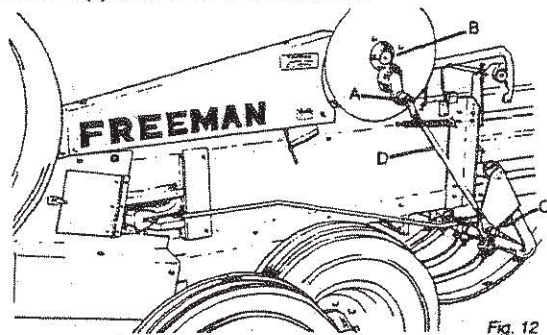
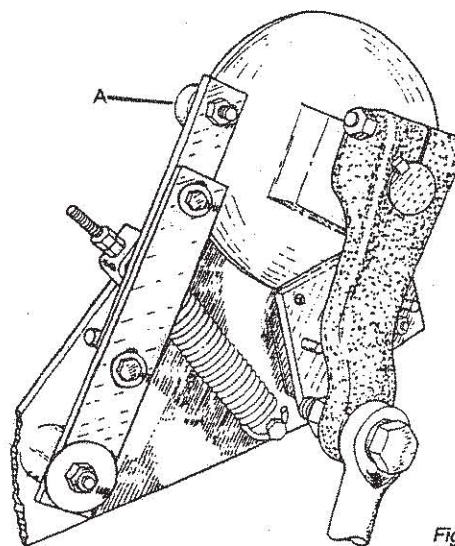

Fig. 12
Fig. 13
a. With needles in the home position, set the needle yoke drive bolt "A," Fig. 12, $\frac{1}{4}$ " to $\frac{1}{2}$ " past center between "B" and "C." To obtain this setting, adjust saddle roller "A," Fig. 13, on the opposite side of the knотter.
d. Adjust needle height by loosening the lock nuts on the needle yoke drive rod "D," Fig. 12. Turn the rod to the right or left for desired setting. All of the 330 balers and 200 wire balers have a needle yoke drive rod on each side. Be sure both are adjusted for equal load on each rod at top dead center.
To adjust the needle height, loosen the nuts on the needle yoke drive rod and turn rod "D," Fig. 12, right or left for the desired setting.